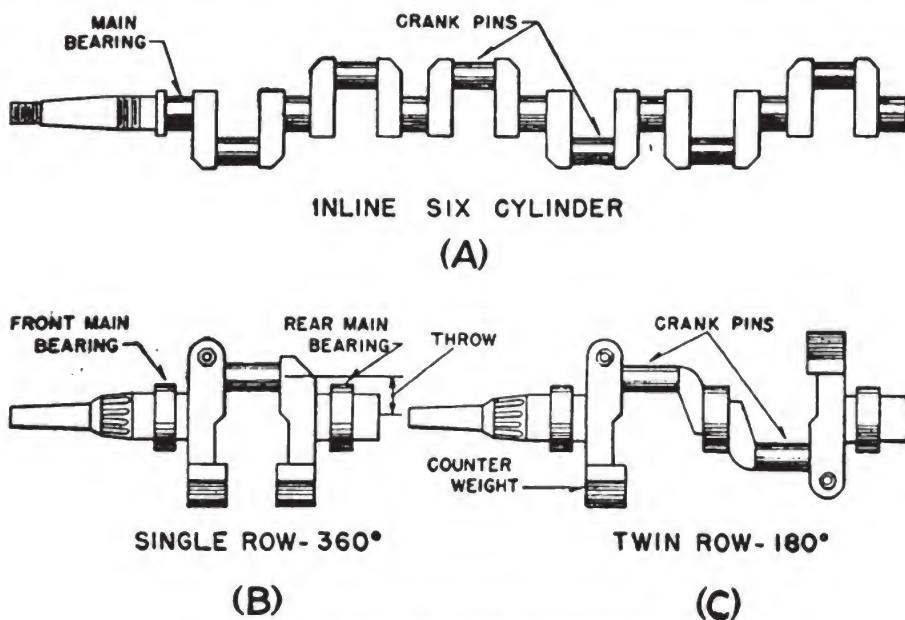

Figure 14.—Three types of crankshafts.
The crankshaft of the engine receives the power developed on the piston and delivers it to the propeller. Note (A) in figure 14. In other words it converts the power stroke of the pistons into rotational force, which turns the propeller. The  $360^\circ$  type crankshaft (B) in figure 14, is conventional for all single-row radial aircraft